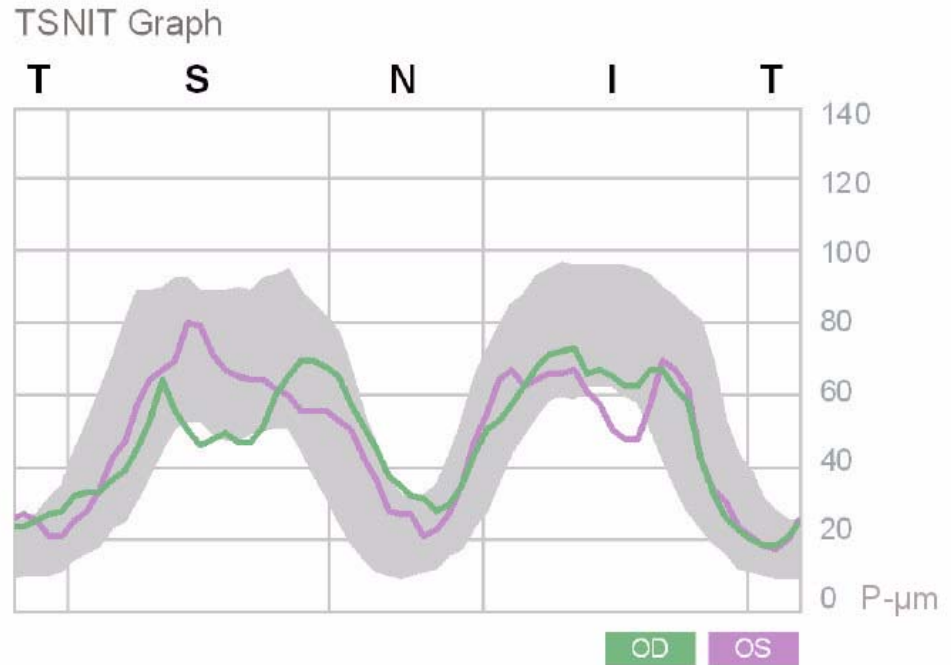

Figure 6-6 TSNIT Graph
On the Symmetry Analysis report, the TSNIT (Temporal-Superior-Nasal-Inferior-Temporal) nerve fiber layer graph (Figure 6-6) displays the normal range (shaded area) and patient's values of RNFL-I developed from the measurement data obtained along the Calculation Circle. The green plot displays the right eye (OD), and the purple plot displays the left eye (OS).